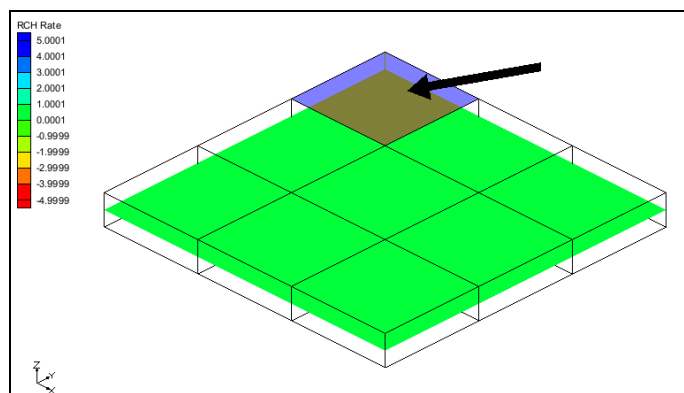

Figure 3 Select the cell indicated by the arrow
2. Using the **Select Cells**  tool, select the cell shown in Figure 3.